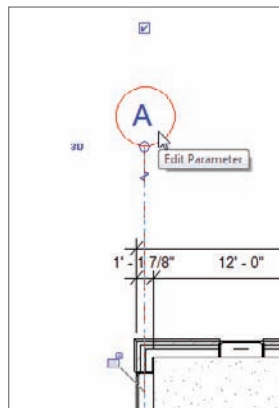

FIGURE 8.16 The grid is now named A.
8. Click in the bubble and rename it to A, as shown in Figure 8.16.